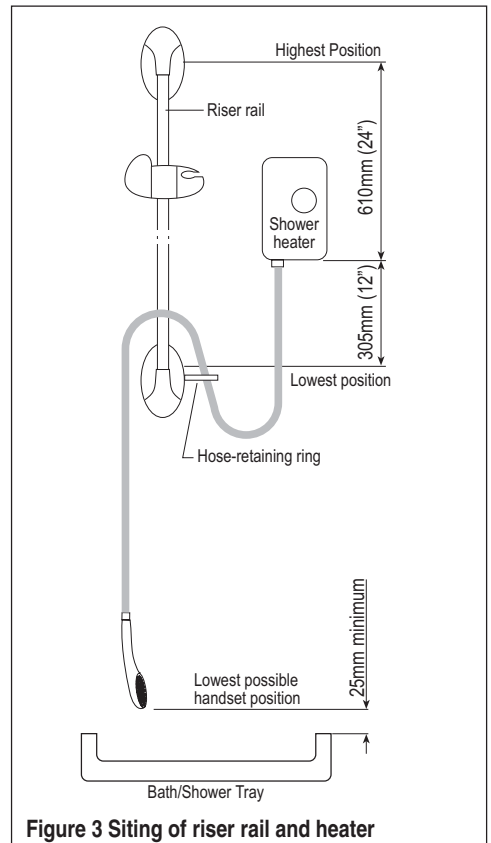

Figure 3 Siting of riser rail and heater
3.7 Position the riser rail close to the heater, not necessarily on the same wall (but bear in mind paragraph 3.5) so that in the highest parked position, the handset is not more than 610mm above the bottom of the heater and in its lowest position it is no lower than 305mm below the heater - see Fig. 3.
1. Install a hose-restraining ring - see Fig. 3.